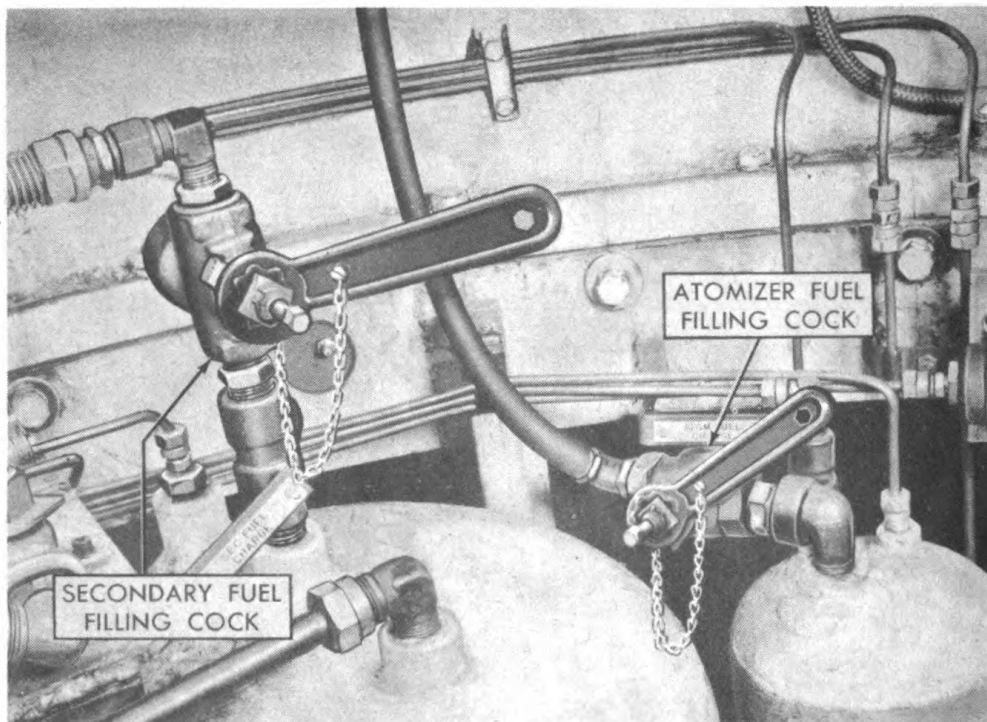

Figure 14—Secondary and atomizer fuel filling cocks.
(3) *Secondary fuel filling cock and atomizer fuel filling cock* (fig. 14). These two 1/2-inch cocks are located in the fuel filling lines to the basket